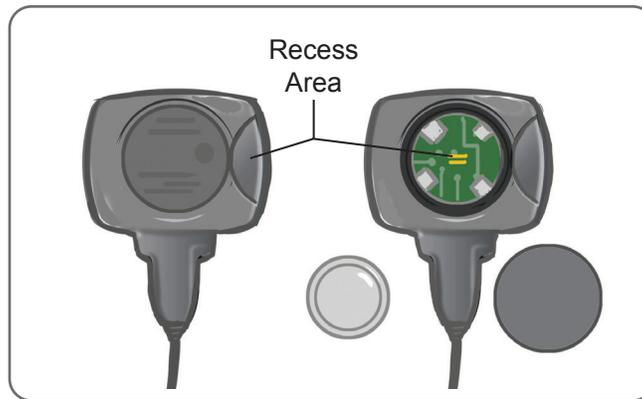

Figure 11-5: Replacing the Foot Sensor Battery
1. Use the recess area on the back of the Foot Sensor to pop out the battery lid cover. See Figure 11-5.